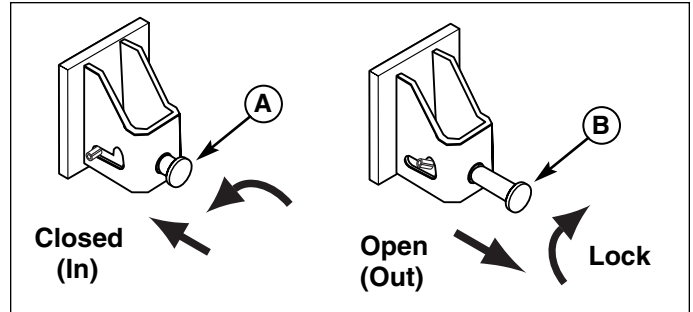
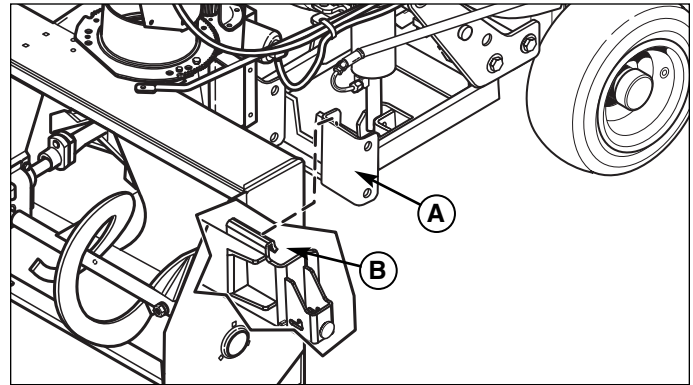

Figure 23. Shot Pins
Figure 24. Attaching the Snowthrower to the Hitch
2. See Figure 23. Pull the shot pins (B) open and locking them in open position.
4. See Figure 24. Drive the tractor push bar under the snowthrower hitch point (B). The dozer snowthrower hitch points (B) need to line up side to side with the edges of the push bar (A). The snowthrower hitch points (B) will hang from the top edge of the push bar (A). Slowly lift the snowthrower 1/2 inch off the ground.
5. See Figure 23. Place snowthrower shot pins (A) in closed position.
8. Check that shot pins (Figure 23) are fully seated into push bar (A, Figure 24). If the shot pins do seat all the way in the in (A, Figure 23) position repeat steps 1-8.
5. See Figure 23. Detach the snowthrower from the snowthrower hitch by moving the shot pins (B) into open position.